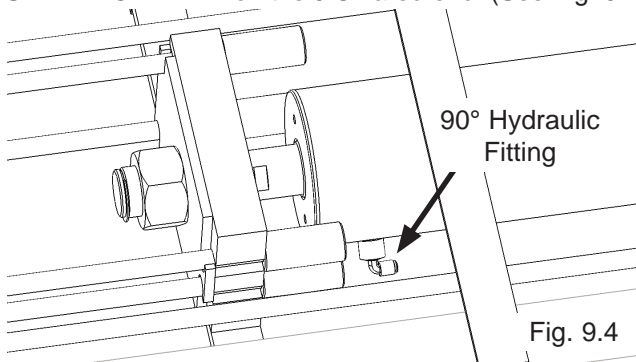

Fig. 9.4
3. Install the 90° Hydraulic Fittings in the port at the ram end of the cylinder. On the pipe thread side of the fitting it is recommended to use Teflon tape or pipe sealer. **DO NOT USE TEFLON TAPE** on the JIC flared end. (See Fig. 9.4)